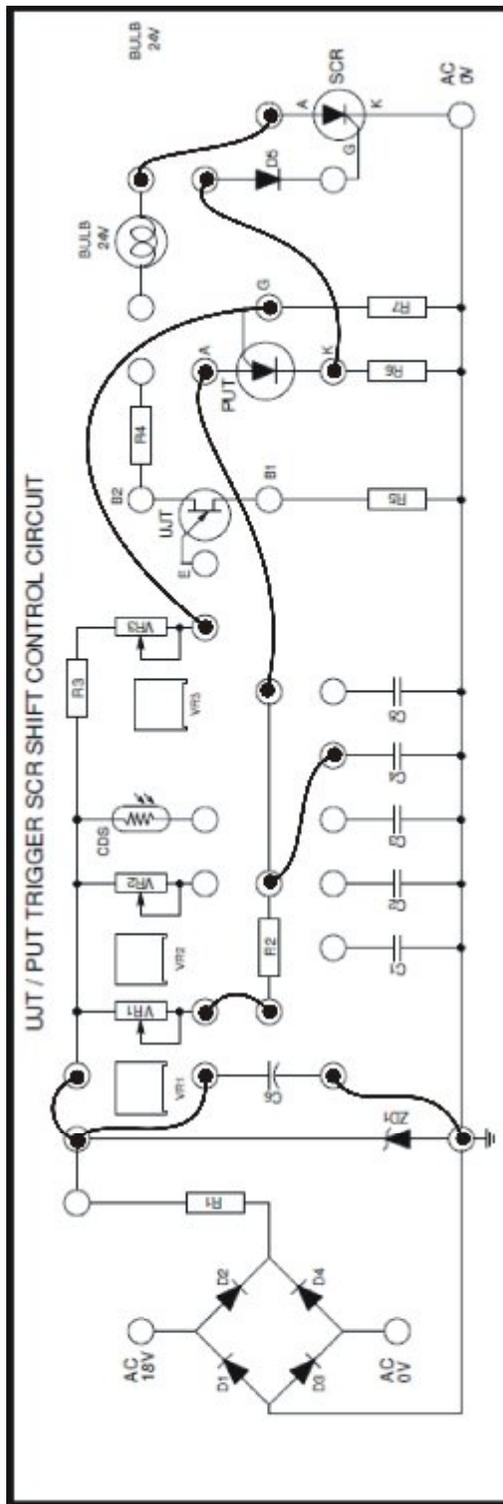

Fig 9.3
12. Turn VR1 fully CW. make connection as in fig 9-3. Repeat steps 3 through 7. Observe and record the relationship among the waveforms.